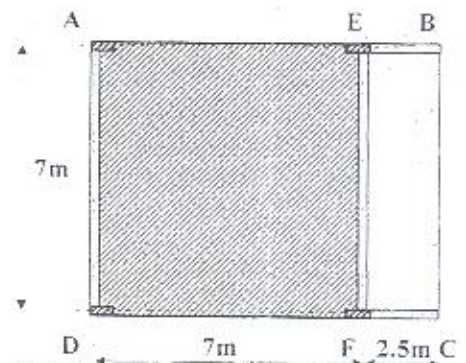

Fig. 3
- Fig. 3 shows a structural plan of roof ABCD. The roof is resting on the beams (AD and EF) and on the frames (EB and FC). The slab Aefd is dropped 100mm. The hollow-block slab system is required. The slabs is subjected to a live load =  $6\text{kN/m}^2$  and a flooring cover =  $1.8\text{kN/m}^2$ . The cross section of all beams is  $250 \times 600\text{mm}$ . Materials:  $f_{cu} = 40\text{MPa}$ ,  $f_y = 400\text{MPa}$ . It is required to carry out the following: